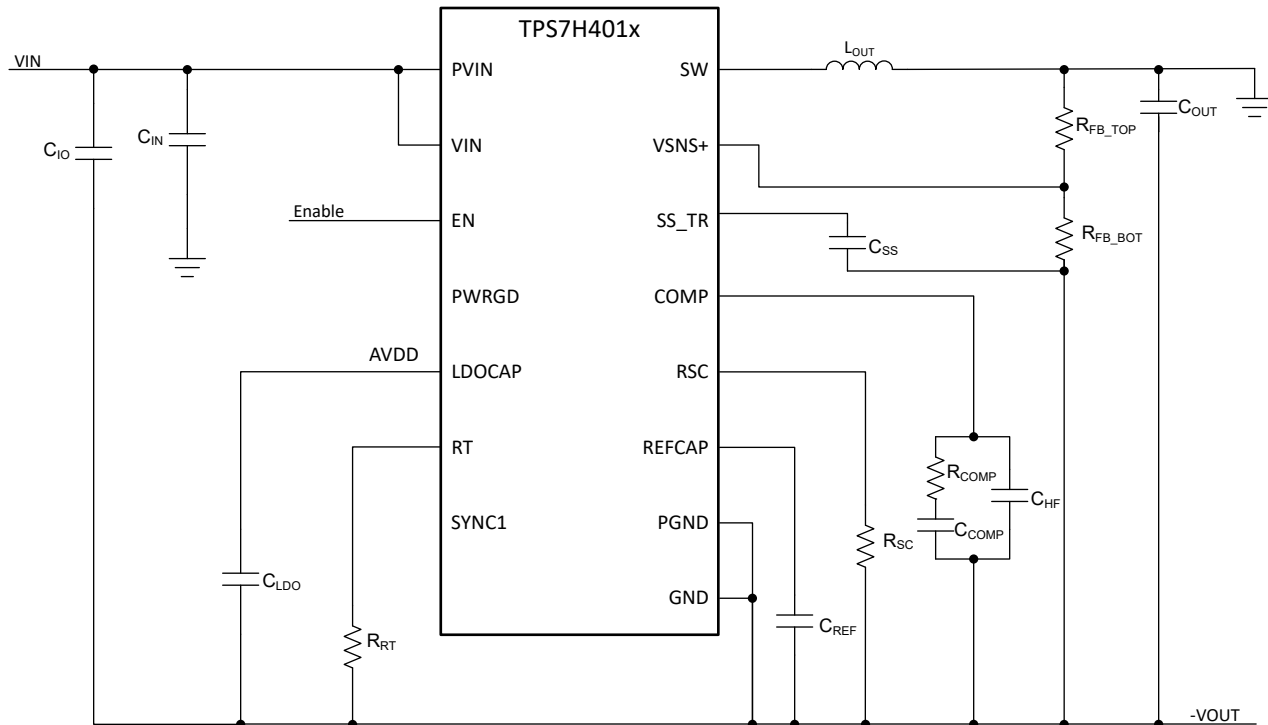

Figure 10-5. Simplified Schematic of Inverting Buck-Boost
The TPS7H401x can be configured as an inverting buck-boost in order to create a negative output voltage as shown in Figure 10-5.
- C_{IO} in Figure 10-5 is the standard input capacitor that would be utilized in a buck converter. C_{IN} is an input capacitor with respect to system ground which provides a low impedance path at the regulator input.